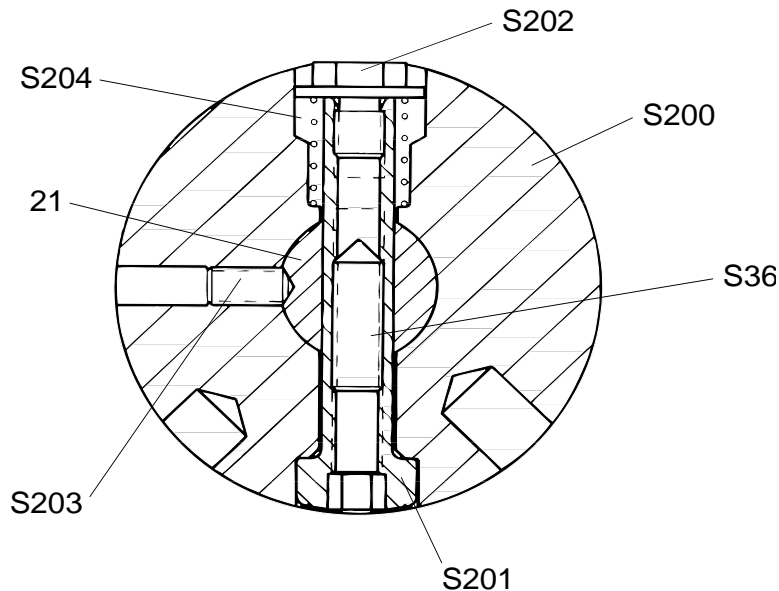

Figure E-1 Overspeed Trip Collar Assembly (A015)
Standard RLA turbines are supplied with an overspeed trip collar assembly (refer to Figure E-1, *Overspeed Trip Collar Assembly*), located within the mounting housing on the non-drive end of the turbine shaft, which contains a spring-loaded bolt, within which resides a speed-adjusting setscrew. The bolt, spring, and setscrew are selected and set at the factory so that the bolt snaps out of the collar at a predetermined trip speed. This trip speed is recorded on the turbine data sheet, the certified drawing, and the turbine nameplate.
The Overspeed Trip Collar Assembly, Figure E-1, consists of the following parts.
The bolt-head shank (S201), which is contained within the overspeed trip collar (S200), passes through a clearance hole in the turbine shaft (21). The overspeed trip collar assembly is held in position on the turbine shaft by a setscrew (S203). The bolt-head shank is heavy at the head end (lower part of Figure E-1, *Overspeed Trip Collar Assembly*). As the shaft and trip collar assembly rotate, centrifugal force tends to move the bolt head out of the collar, compressing the bolt spring (S204). When turbine speed reaches the trip speed, centrifugal force at the bolt head exceeds spring retention force, causing the bolt head to snap out, tripping the trip linkage.
Refer to Figures E-1, *Overspeed Trip Collar Assembly*, E-2, *Trip System*, and E-3, *Collar in Tripped Position*.